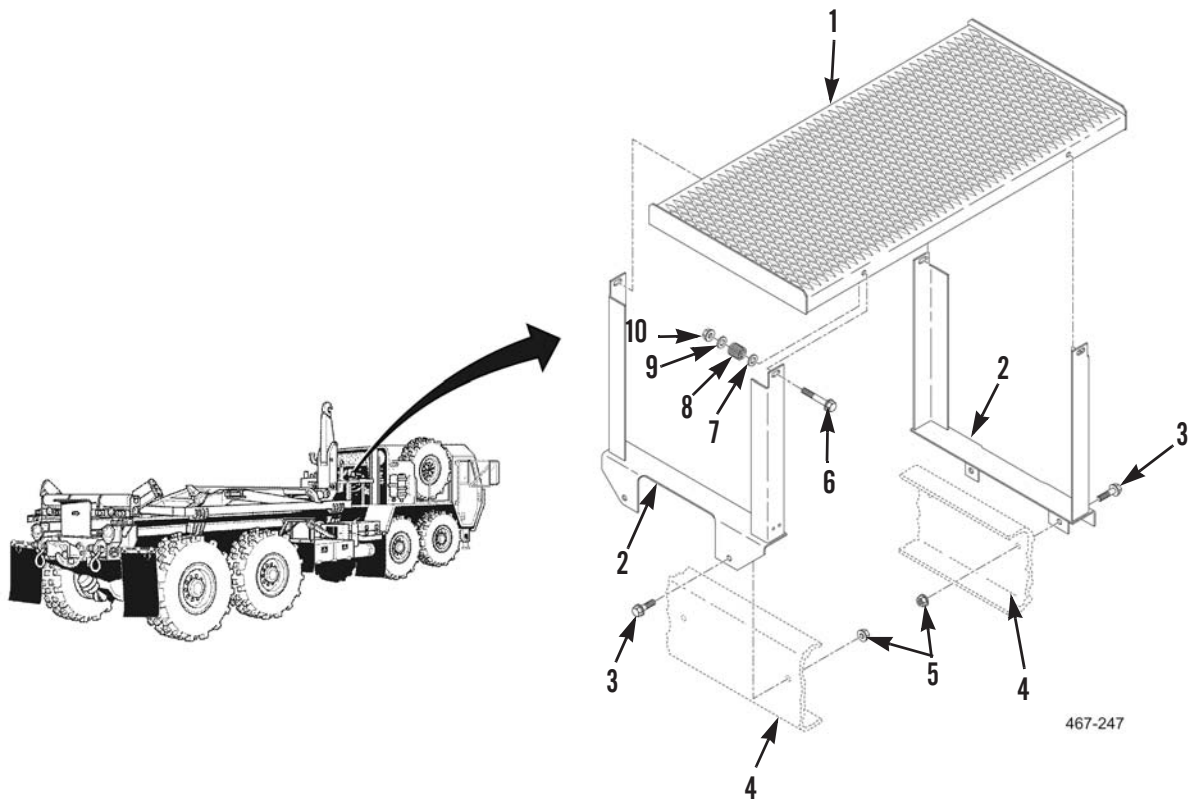

Figure 4. Platform Assembly Removal.
1. Remove four nuts (Figure 4, Item 10), washers (Figure 4, Item 9), springs (Figure 4, Item 8), washers (Figure 4, Item 7), bolts (Figure 4, Item 6), and platform (Figure 4, Item 1) from platform stands (Figure 4, Item 2).
2. Remove four nuts (Figure 4, Item 5), bolts (Figure 4, Item 3), and two stands (Figure 4, Item 2) from frame (Figure 4, Item 4). Set bolts and nuts aside for reinstallation.